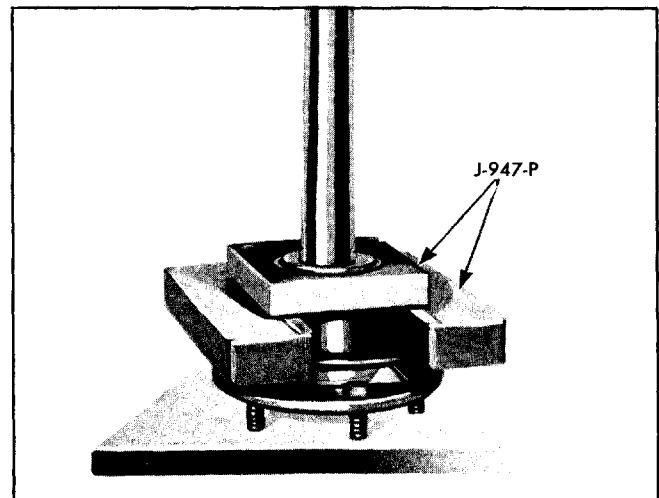

Fig. 4-12 Bearing Replacer Tool J-947-P in Place for Pressing Bearing Off Shaft
3. With tool J-947-P engaging outer race of bearing and ring enclosing bearing (Fig. 4-12), press shaft from bearing in arbor press.